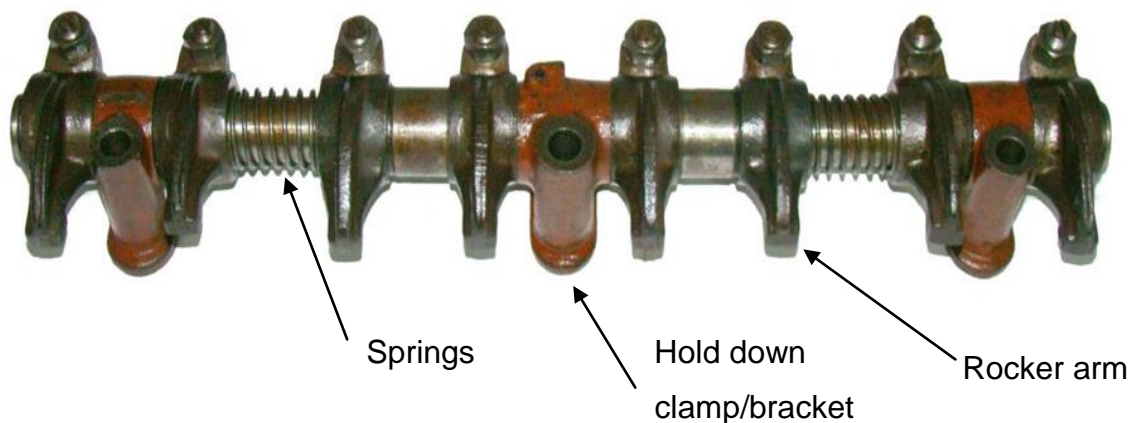

Fig.16
- Remove the valve rocker arm assembly (Fig.16).